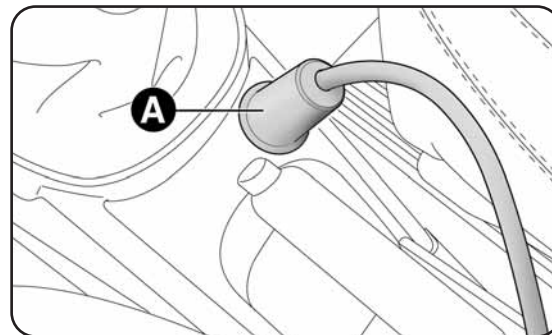
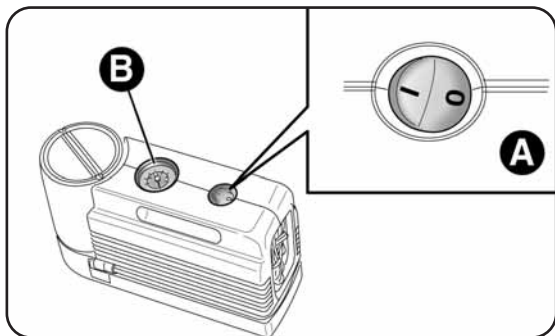

fig. 17
fig. 18
- make sure that switch A-fig. 18 on the compressor is in position 0 (off), start the motor, insert pin A-fig. 17 into the current socket/cigar lighter on the central tunnel and switch on the compressor by placing switch A-fig. 18 in position I (on);
- inflate the tyre to the pressure shown in the paragraph entitled “Wheels” in chapter 6. In order to obtain a precise reading, check the pressure on pressure gauge B-fig. 18 with the compressor off;